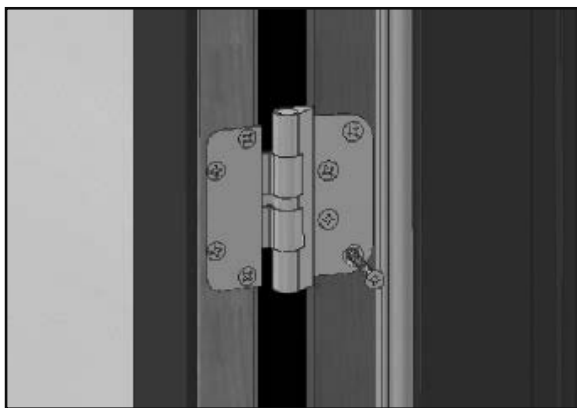

FIG. 14
- L) Apply the supplied #12 x 2-1/4" screws through each hinge, securing the hinges and frame to the rough opening. Additional shims are required behind each hinge. (Fig. 14)